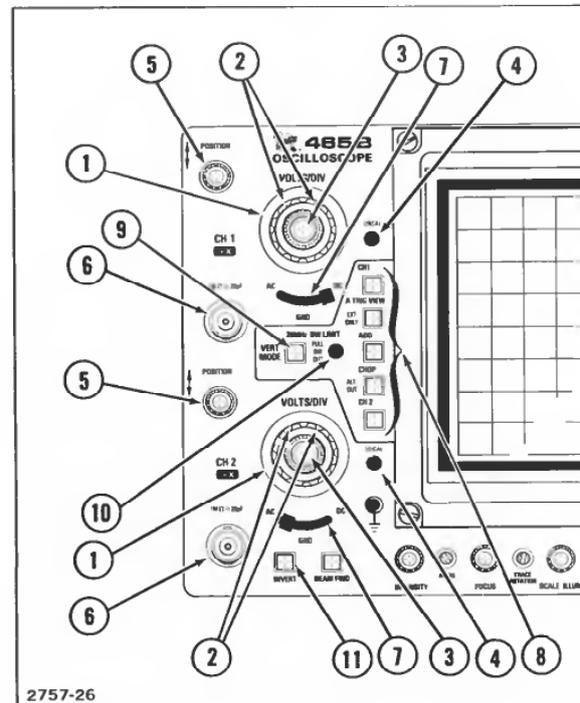

Figure 2-3. Vertical controls, connectors, and indicators.
The major controls, connectors, and indicators for operation of the 465B are located on the front panel of the instrument. A few auxiliary functions are provided on the rear panel. Figures 2-3 through 2-7 show the front and rear panels of the instrument with the controls, connectors, and indicators called out. The circled numbers correspond to the discussions about particular controls, connectors, and indicators. If your instrument is equipped with a DM44 Digital Multimeter, refer to either the 465B/DM44 Operators Manual or the DM44 Service Manual for descriptions of DM44 controls, connectors, and indicators.
Refer to Figure 2-3 for location of items 1 through 11.